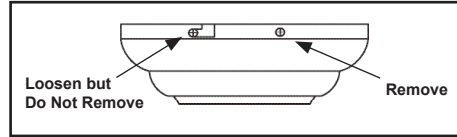

Figure 5
1. Remove the mounting bracket from the canopy by loosening the four screws on the top of the canopy. Remove the two non-slotted screws and loosen the slotted screws (Figure 5).